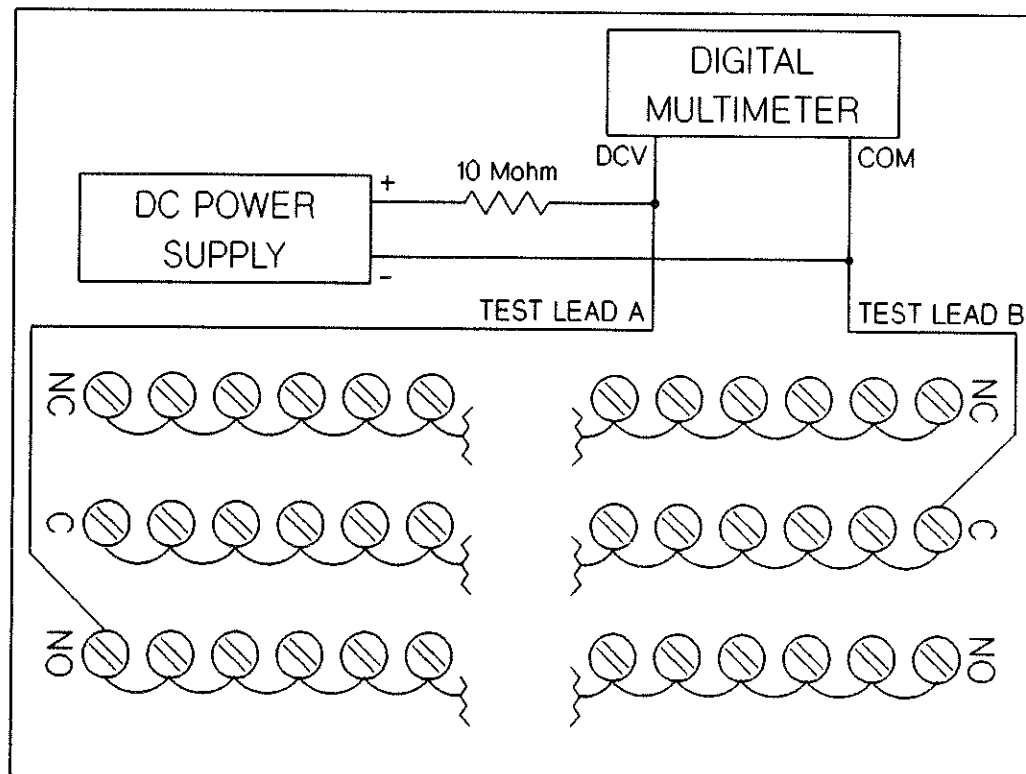

Figure 14-10 HP 44725A NO Channels to Common DC Isolation Test
8. Refer to Figure 14-10. Connect test lead A of the test circuit to the shorted NO lines on the test fixture. Connect test lead B of the test circuit to the shorted C (Common) lines on the test fixture.